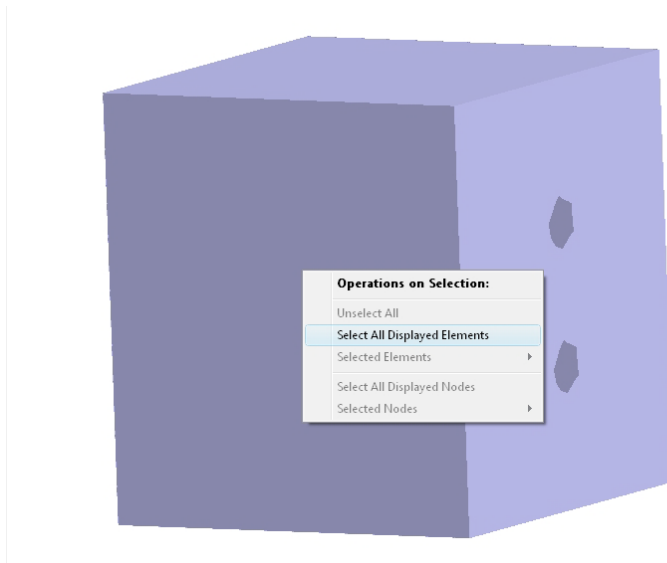

Figure 9.9: Select all displayed elements in the GUI.
- Right-click on the mesh while holding down the *shift-key* to view a pop-up context menu shown in Figure 9.9 and select: **Select All Displayed Elements**.
- Left-click on the elements around the edge of a hole while holding the *shift-key*. Make sure to select elements with nodes on the hole edge (similar to the Figure 9.9).